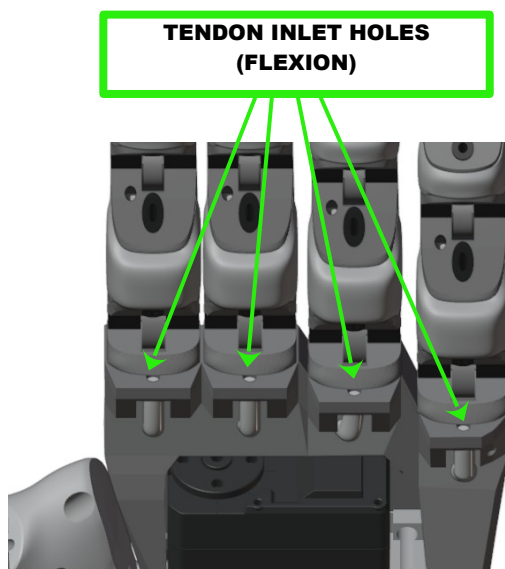

Figure 5.45: Tendon inlet holes (flexion)
4. Push the nylon threads until they come out of the outlet hole (figure 5.45).